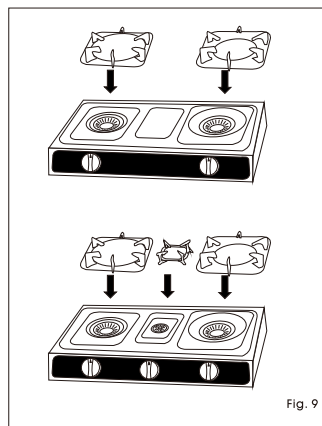

Fig. 9
2. When unpacking, make sure that all of the parts of the gas cooker are included. Assemble the parts as show in.(Fig. 9)